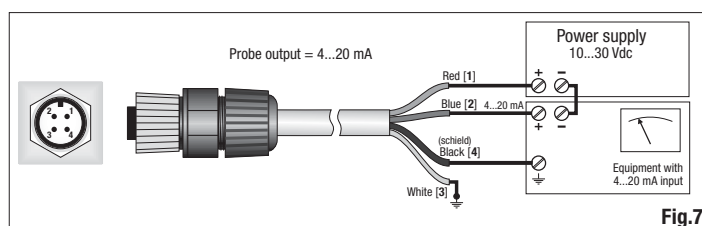

Fig.7
- LP PYRA 10 AC, LP PYRA 13 AC have to be connected to a power supply and a multimeter as shown below (Figure 7), resistance load for reading the signal must be $\leq 500 \Omega$: